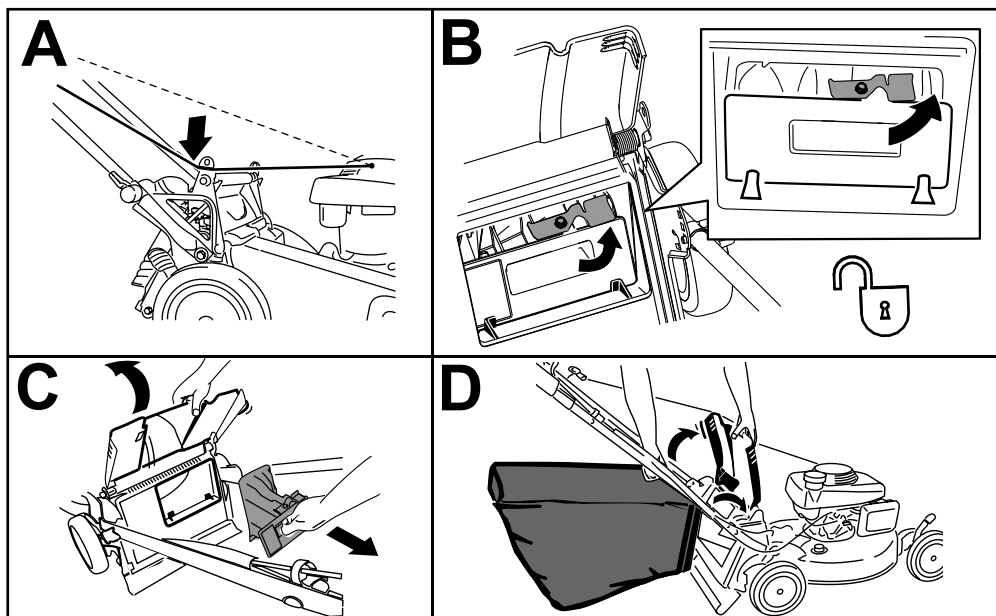

Figure 18
1. Route the starter rope around the lower-rope guide (A of Figure 18).
2. Raise and hold up the rear deflector and unlock the rear plug (B of Figure 18).
3. Pull out the rear plug (C of Figure 18).
4. Hang the upper front edge of the bag from the grass-bag pins on the notches of the handle brackets (D of Figure 18).